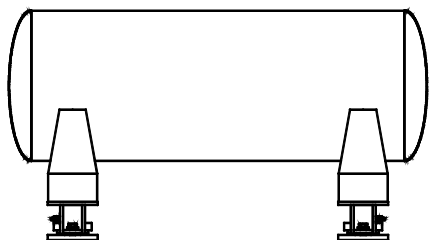

Figure 6-7: Tank Scale, Static
- **Tank Scale, Static:** A static tank scale, either horizontal or vertical, does not have mixers or violent chemical reactions that would cause the tank to move horizontally. The act of filling and emptying alone does not require stabilizers to be used. A static tank scale does not require stabilizers (see Figure 6-7).